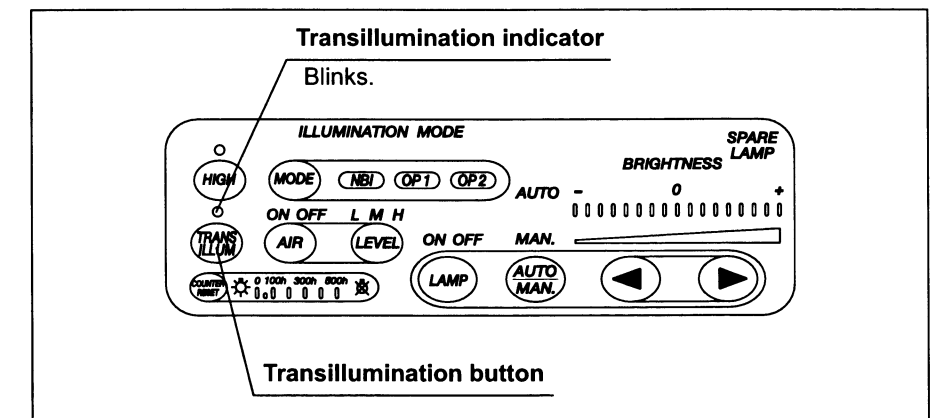

Figure 3.14
- Press the transillumination button (see Figure 3.14).